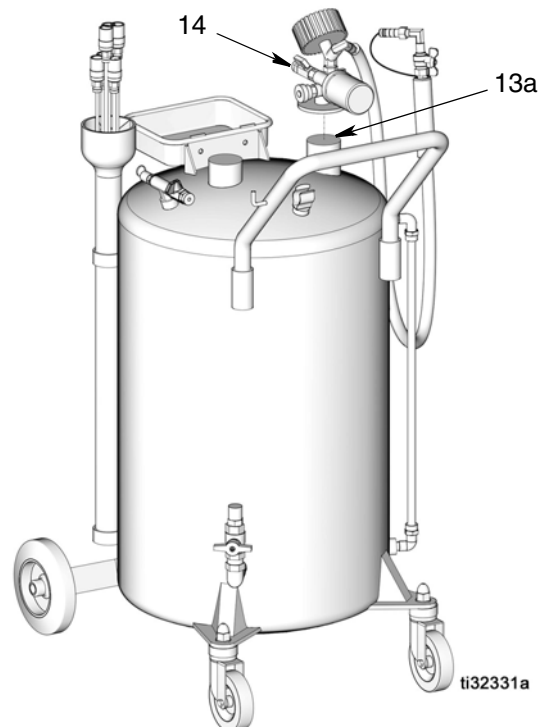
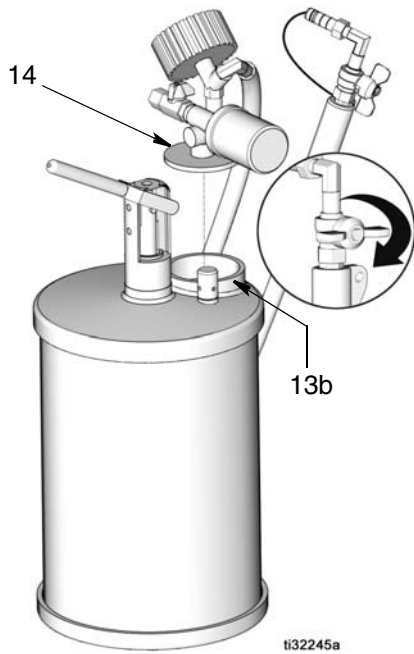

FIG. 10: Models 26C061 and 26C063
FIG. 11: Models 26C062 and 26C064
7. Install vacuum gauge assembly (14) into the tank adapter (13a) (models 26C061 and 26C063) (FIG. 10) or chamber cover (13b) (models 26C062 and 26C064) as shown in (FIG. 11, page 7).